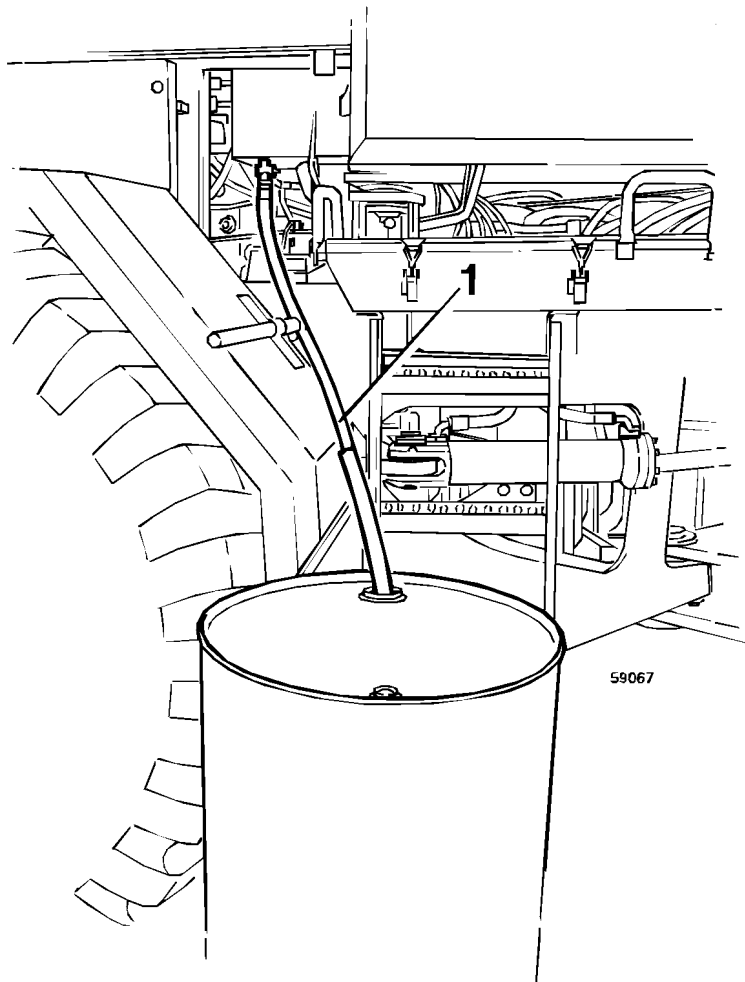

Figure 1
4. Drain the hydraulic oil, see Figure 1.